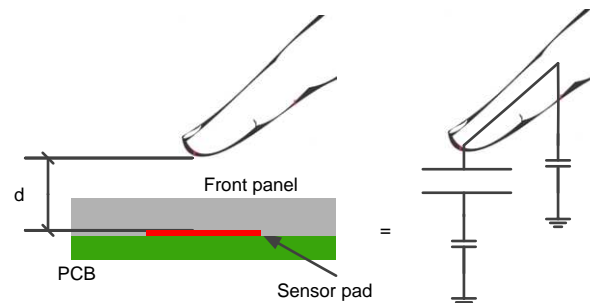

Figure 4. Theory of Capacitive Touch
In general capacitive touch systems, the sensor pad forms one side of a parallel capacitor and the user's finger then forms the second side of the capacitor (see Figure 4). When the user brings a finger close to the sensor pad, the distance (d) between the finger and sensor pad decreases, and (according to the parallel-plate capacitor formula) the capacitance (C) increases. For electrostatic discharge (ESD) and isolation reasons, it is standard practice to use a nonconductive front panel overlay above the sensor pads.